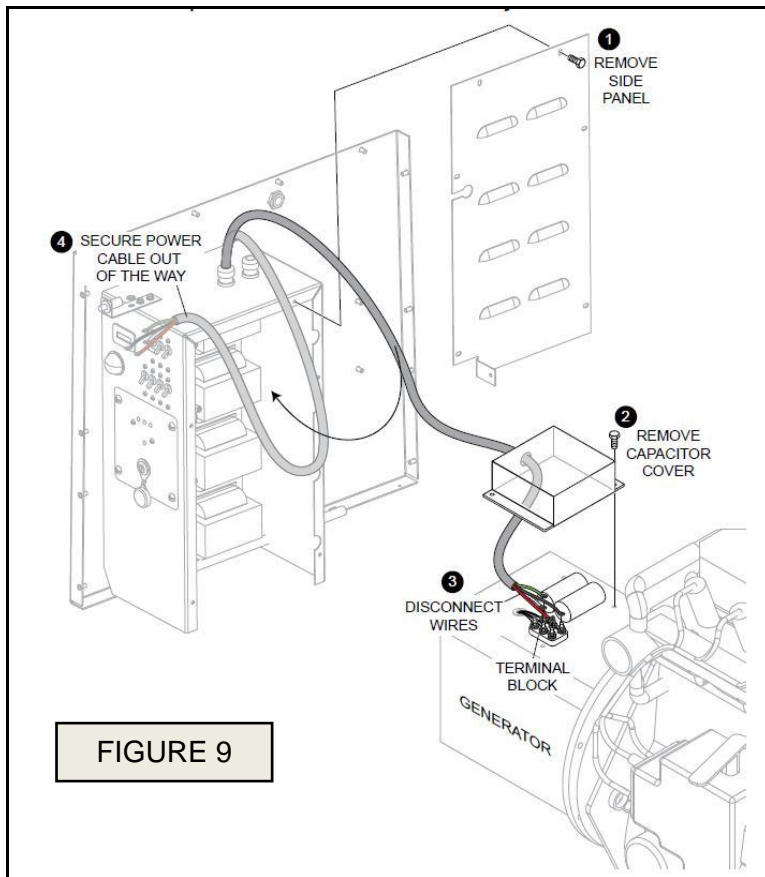

FIGURE 9
STEP 6: DISCONNECT 4-WIRE POWER CABLE Refer to FIGURE 9.